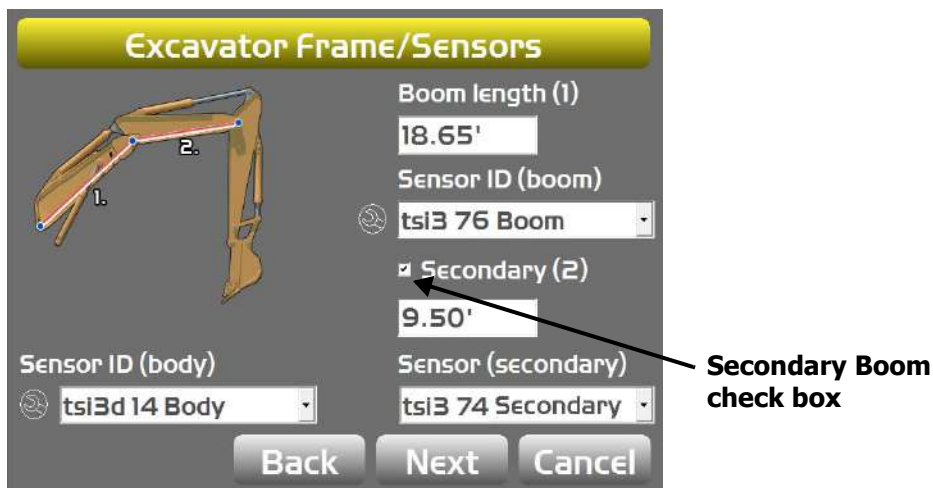

Figure 65: Secondary Boom Check Box
1. Check the **Secondary Boom** check box (Figure 65), and see "Boom Sensor" on page 47 for instructions on calibrating the secondary boom sensor.